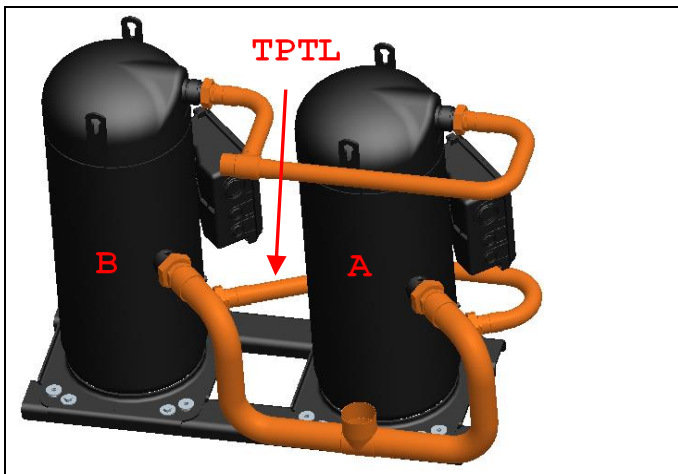

Figure 1: Tandem with 3 tubes design (TPTL)
- **TPTL – Two-phase Tube Line (Fig.1):** By centring the TPTL on the oil level line, both gaseous refrigerant and liquid oil can flow through the pipe. Simultaneous balance of internal gas pressure and oil level is intended.